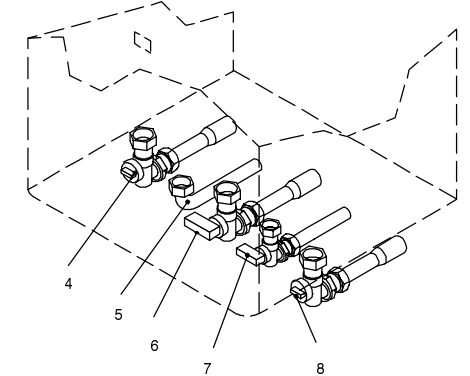

fig. 2.10
- 2 Shut off the gas supply cock (6) and the cocks for the water circuits (4, 7 and 8) fitted under the boiler (fig. 2.10);